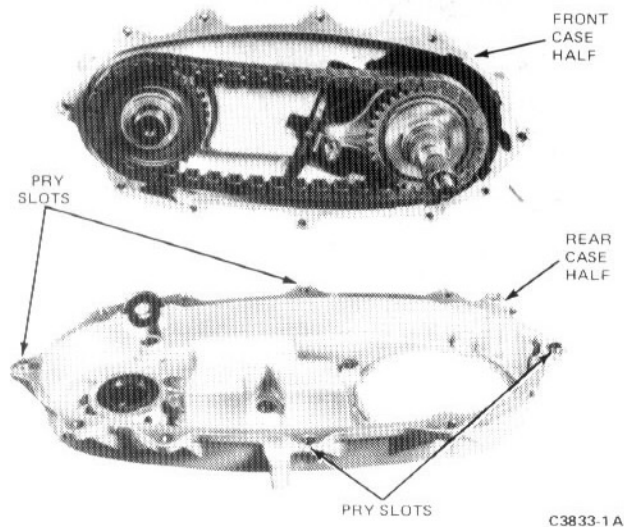

FIG. 7 Case Halves Assemblies
6. Separate the transfer case by removing the eleven bolts. The case halves may be separated by inserting a flat blade screwdriver in the pry slots on the case housing (Fig. 7). With the case halves separated, remove the magnetic chip collector from the bottom of the rear transfer case half.